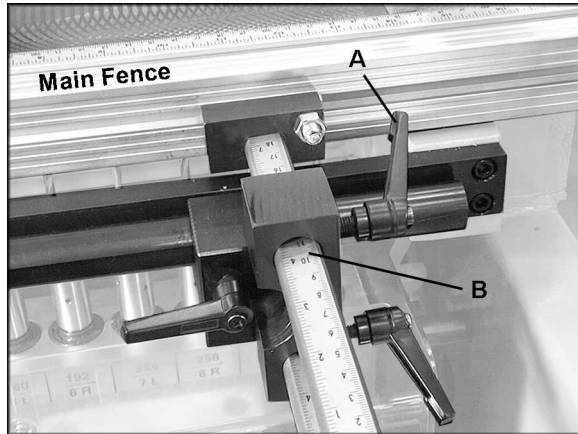

Figure 34
1. Loosen locking handle (A, Figure 34) at both ends of the main fence.
2. Move the fence forward or backward, making sure that the measurement on the bar scale (B, Figure 34) is the same on both ends of the fence.
3. Tighten locking handle (A, Figure 34) at both ends of the main fence.